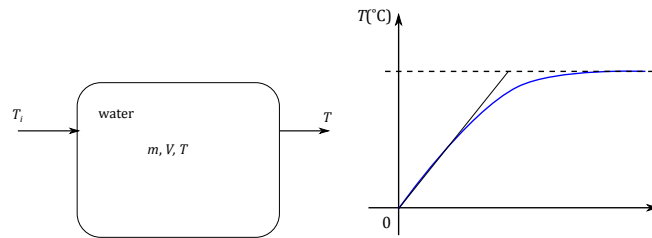

Figure 1.9: Running water
1. Water is running through the tank, no heating $P = 0$, $K = 0$. Such systems are used as a filter for the inflow water temperature T_{inp} , see Fig. 1.9,